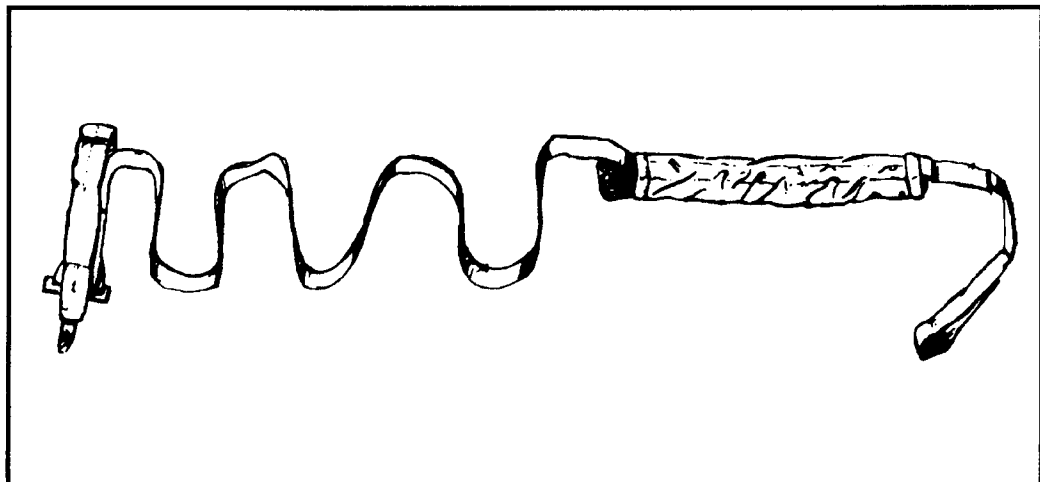

Figure 12-57. HPT lowering line stowed for tandem load.
d. Secure the pile extension on the retainer flap to the hook tab at the looped end of the lowering line (Figure 12-57).